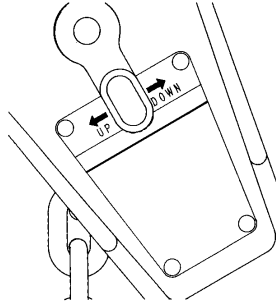

Figure 6
- Place the selector switch on the handle in the center neutral position (Figure 6). Then grasp ring behind handwheel with one hand and rotate handwheel clockwise with other hand. This will allow free-wheel mode. (NOTE: Chain will only free-wheel when there is no load.) Take up slack by pulling on loose or free end of chain, or by turning handwheel.